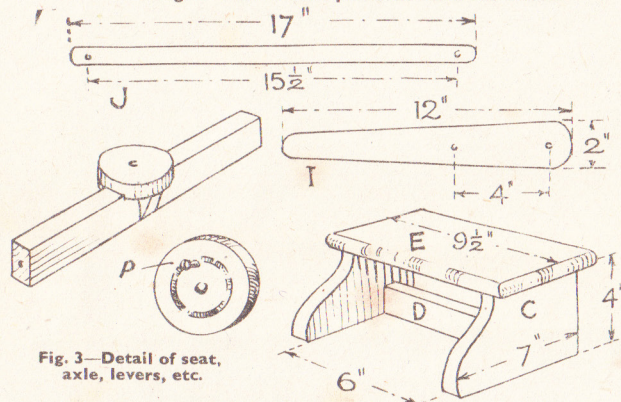

Fig. 3—Detail of seat, axle, levers, etc.
Now make the seat from the four pieces shown in the enlarged detail in Fig. 3. Mark out the shaping of piece on to one piece of stuff measuring 7ins. by 4ins., and after cutting this round, use it as a template for outlining the second
The hand levers—one is shown at (I) Fig. 3, are cut from 1in. deal and to the measurements shown. Although the length is shown as 12ins., it can be made longer if thought necessary, according to the age and size of the youngster who will use the toy. The narrow top part of the levers should be rounded off smooth to afford a safe and comfortable grip for the hand.
Fix the levers to the side rails (B) by means of round-head screws, washers being included on the outside. The connecting rods (J) in Fig. 3 are made from iron bar about $\frac{3}{8}$ in. or so wide by $\frac{1}{2}$ in. thick. Should this be difficult to get, then hardwood can be used, about 1in. wide and $\frac{3}{8}$ in. thick.
Oak or beech would be a most suitable wood here. The pivot screw for the rod is shown at (P) in Fig. 3. Drill holes in the rods, as shown, and connect them to the wheels and the levers with round-head screws. This completes the work of construction.